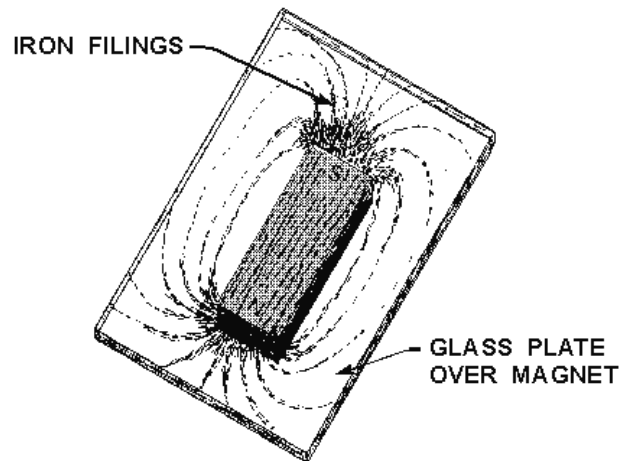

Figure 1-13.—Pattern formed by iron filings.
A pattern of this directional force can be obtained by performing an experiment with iron filings. A piece of glass is placed over a bar magnet and the iron filings are then sprinkled on the surface of the glass. The magnetizing force of the magnet will be felt through the glass and each iron filing becomes a temporary magnet. If the glass is now tapped gently, the iron particles will align themselves with the magnetic field surrounding the magnet just as the compass needle did previously. The filings form a definite pattern, which is a visible representation of the forces comprising the magnetic field. Examination of the arrangements of iron filings in figure 1-13 will indicate that the magnetic field is very strong at the poles and weakens as the distance from the poles increases. It is also apparent that the magnetic field extends from one pole to the other, constituting a loop about the magnet.
- Q27. Refer to figure 1-13. For what purpose would you sprinkle iron filings on the glass plate?
- Q28. Refer to figure 1-13. What pattern would be formed if sawdust was sprinkled on the glass instead of iron filings?